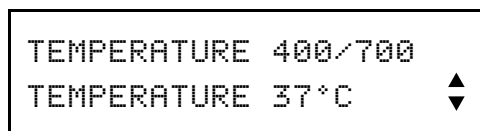

Figure 51- TEMPERATURE
Pressing the TEMP/CO(8) button will change the menu screen to that of **Figure 51**.